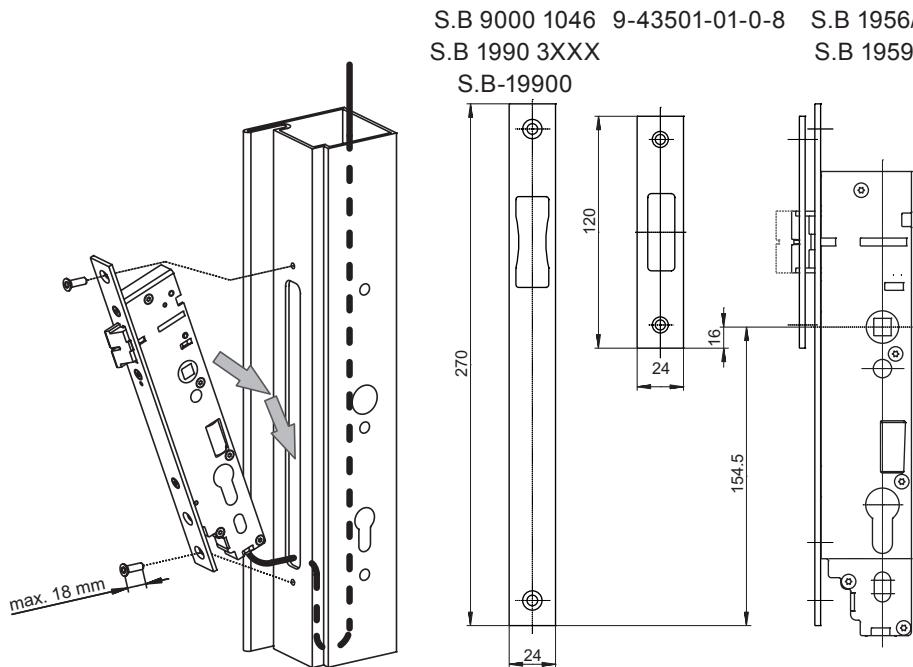

Fig. 7: installation
- Introduce the lock at an angle from above into the lock recess, in doing so feed the cable into the profile (see fig. 7).